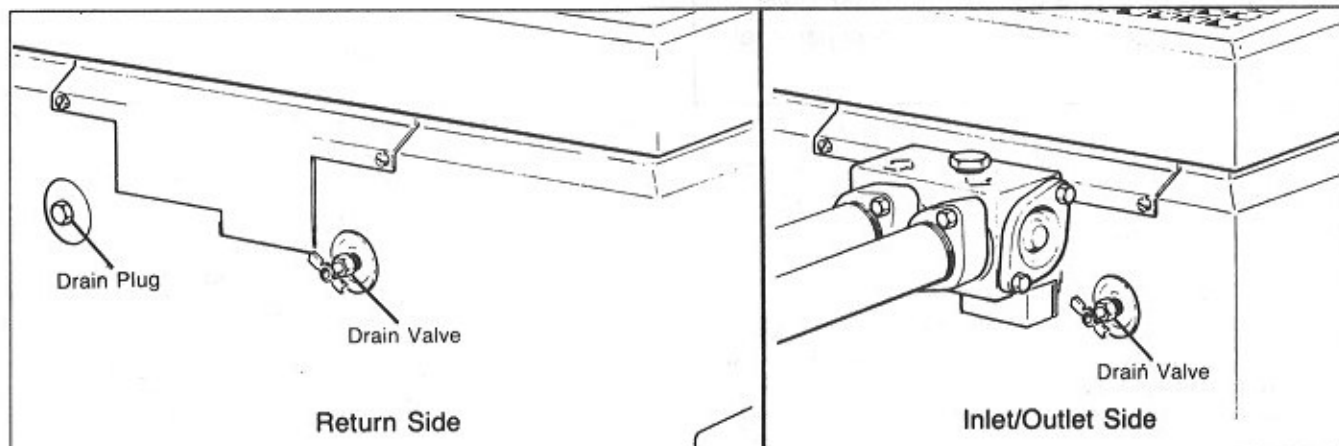

Figure 14. Heater Drain Locations
2. Completely drain the heater before the first frost. To drain the heater, remove the drain plugs and open all of the drain valves (see Fig. 14). After the heater is drained, remove the valves. Make sure there is no mineral buildup in the openings.